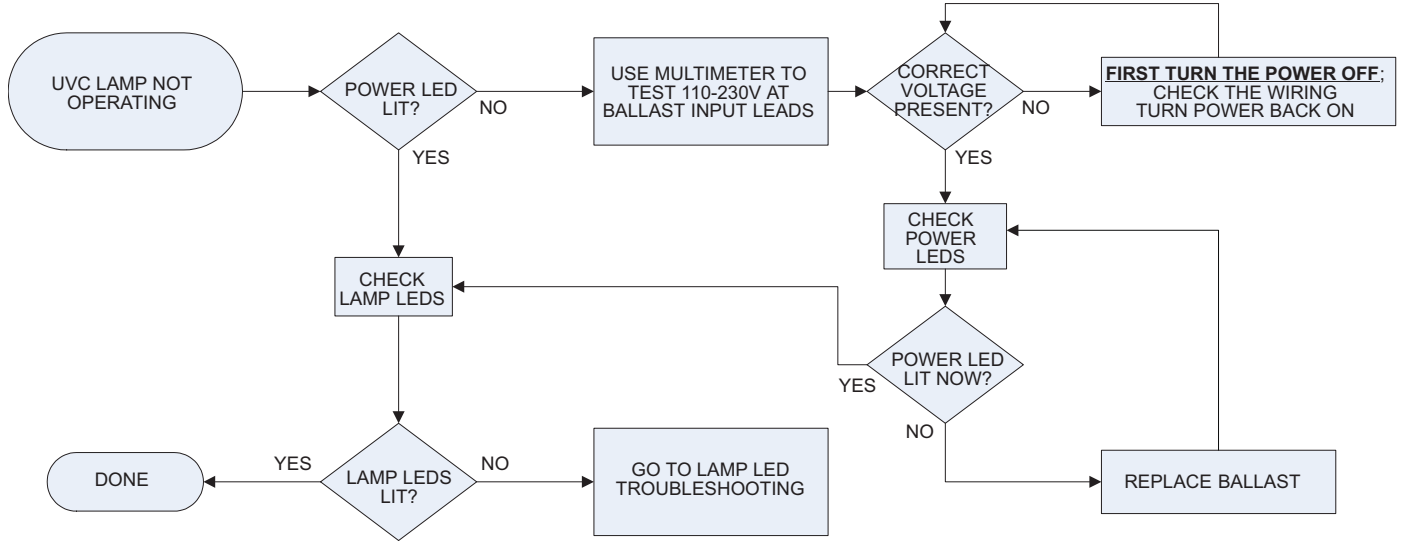
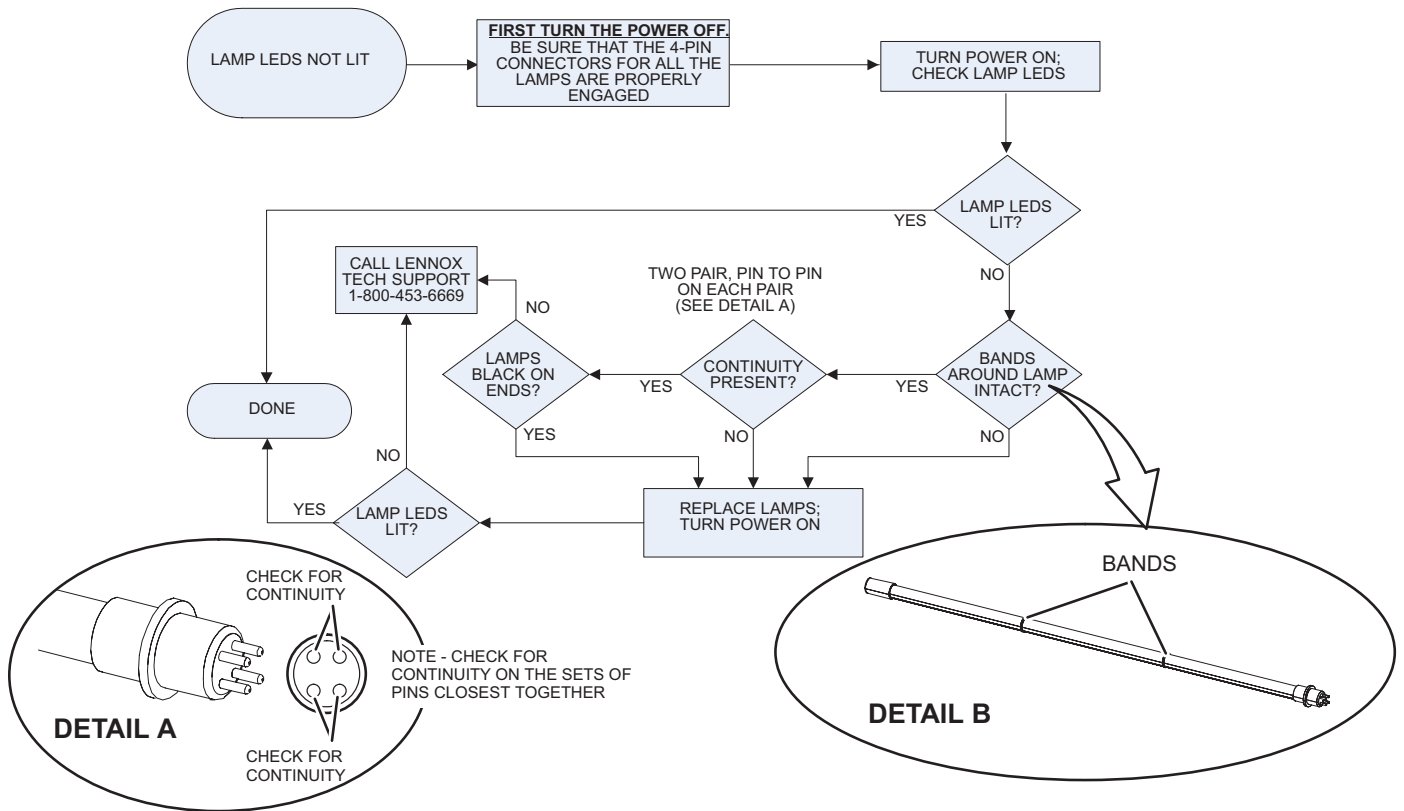

FIGURE 44
FIGURE 45
- 2 - Ohm-check across the lamp pins to check for continuity of lamp filaments (see FIGURE 45).
Troubleshooting charts are provided to aid in determining the cause of any problems encountered (FIGURE 44 and FIGURE 45).